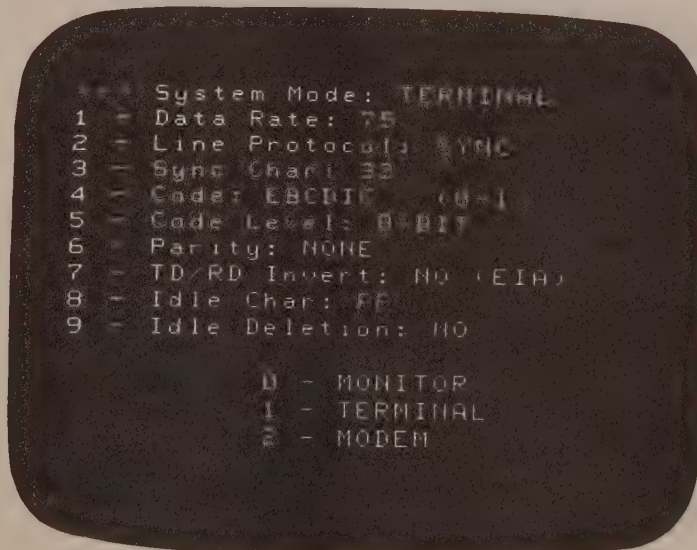
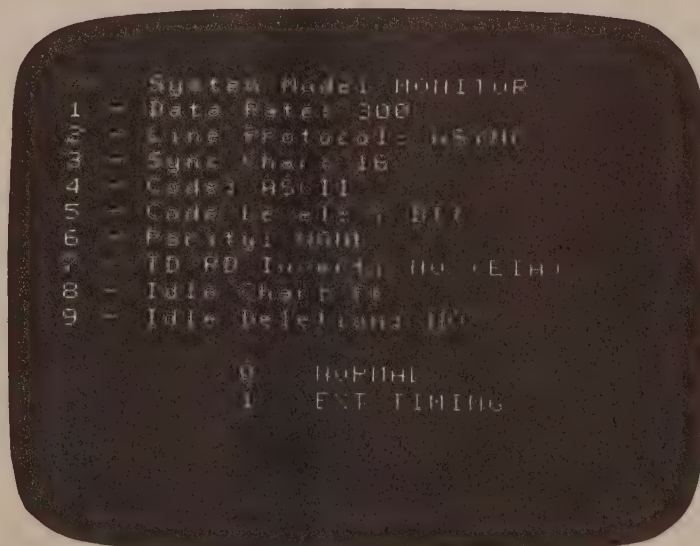

FIGURE 4.1-1. SYSTEM MODE SELECTIONS
FIGURE 4.1-2. MONITOR SUB-SELECTIONS
This switch determines the Hawk's monitoring characteristics, which are either on-line monitor or one of two interactive modes. The selections are displayed in Figure 4.1-1. The MONITOR option is selected when the Hawk is to only monitor on-line and trap data with no transmit and reply capability. When this option is selected, a second option appears on the CRT as shown in Figure 4.1-2. The NORMAL selection allows the Hawk to use the transmitter (TC) clock on pin 15 of the EIA Interface to monitor the Transmit Data (TD). The EXT TIMING selection allows the Hawk to use the Ext Transmitter Clock (TC) on pin 24 to monitor the TD. See Figure 4.1-3.